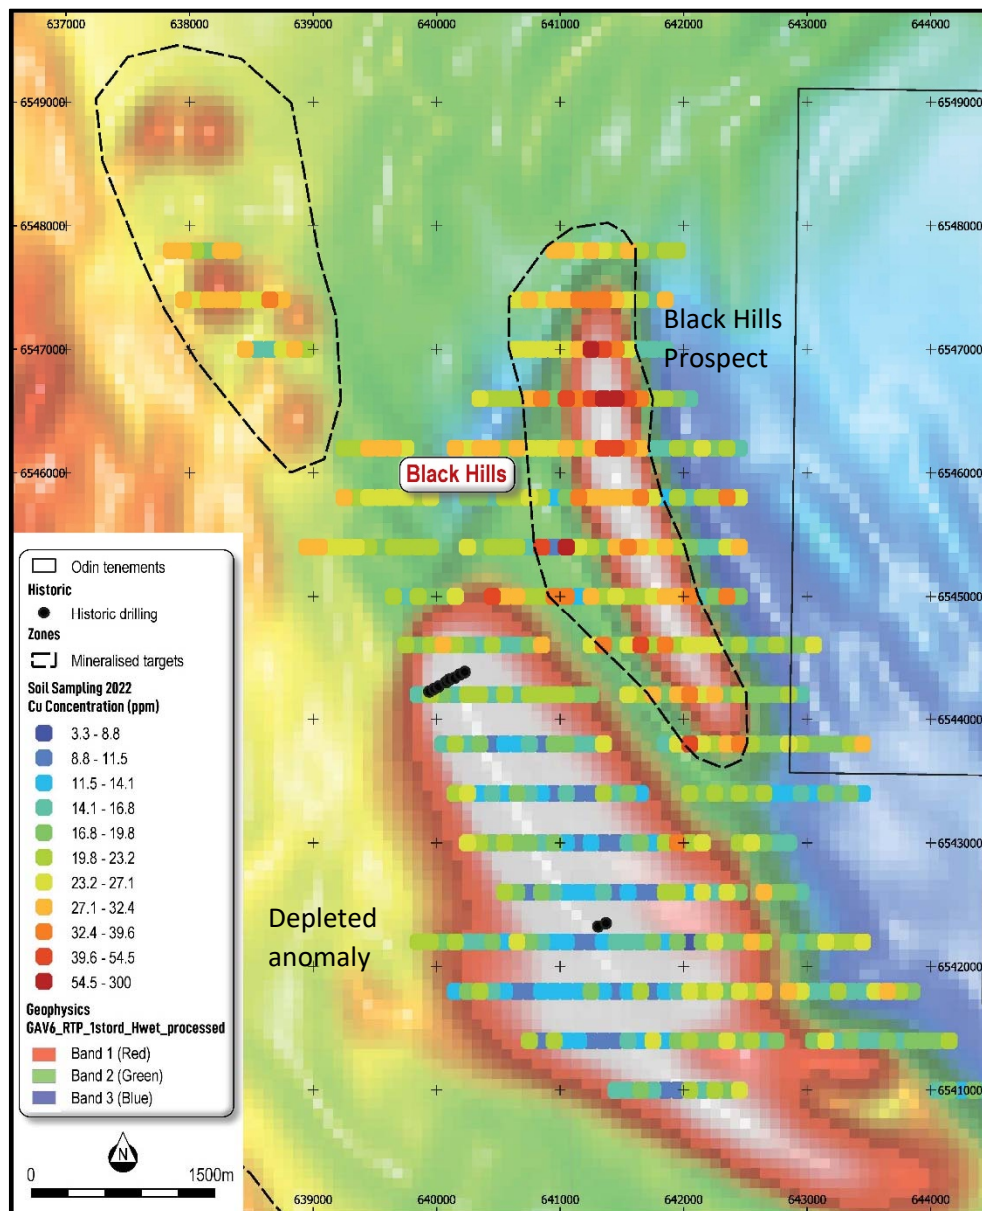

Figure 4 – Phase 2 geochemical survey results showing Copper concentration in soils over the Black Hills prospect area
- Completed geochemistry demonstrating significant overlying enrichment in Copper (Figure 4) and associated Base Metals and indicator elements,